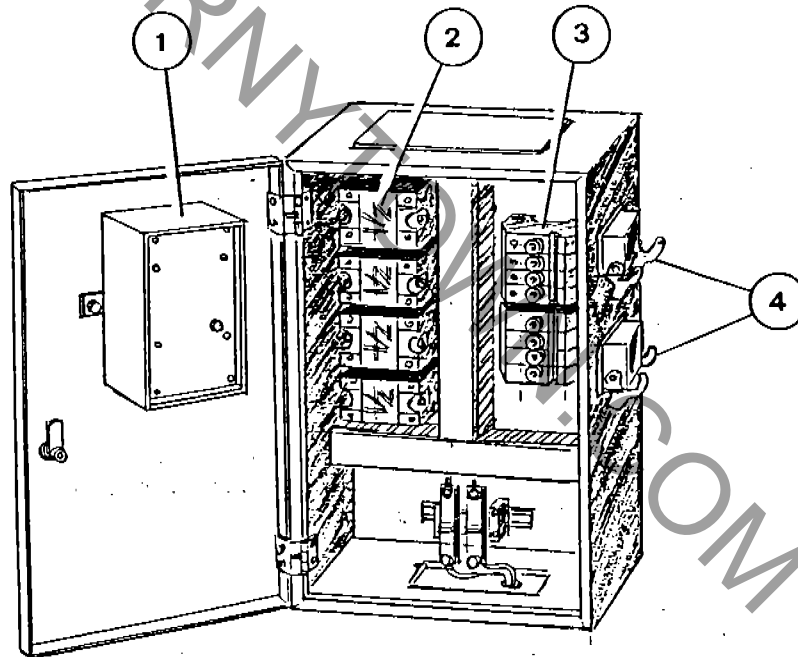

Fig. 11
**LIGHTS RUN (Fig. 11)**
**RINCORSA LUCI (Fig. 11)**